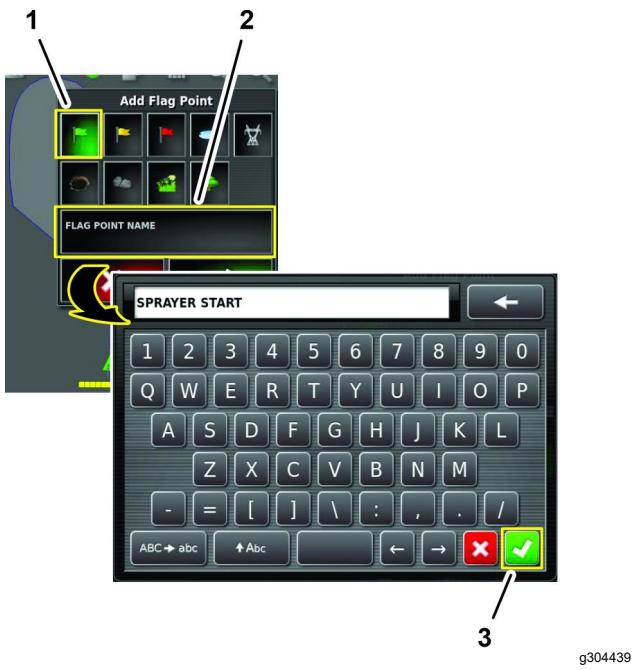

Figure 81
4. In the add flag point dialog box, press a flag point icon, and press the FLAG POINT NAME icon (Figure 81).
5. Use the on-screen keyboard to type the name of the custom flag point, and press the confirm icon (Figure 81).